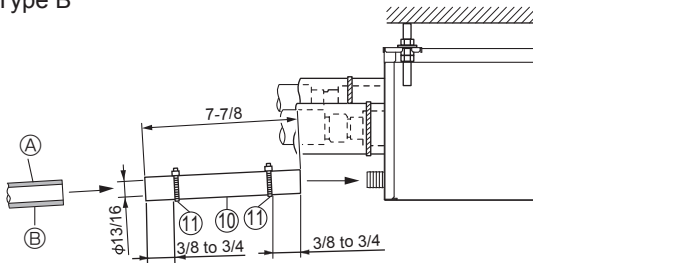

Fig. 8-1
- (1) Apply PVC adhesive (procure locally) to the drain connection on the branch box and push the attached drain hose ⑩ onto the connection as far as it will go. (Fig. 8-1)
- (2) Insert a hard PVC pipe (O.D. 13/16 inch, 20 mm, procure locally) into the attached drain hose ⑩ and glue it together and fix it. (Fig. 8-1)
- (3) Fit a band ⑪ to the attached drain hose ⑩ (Fig.8-1)